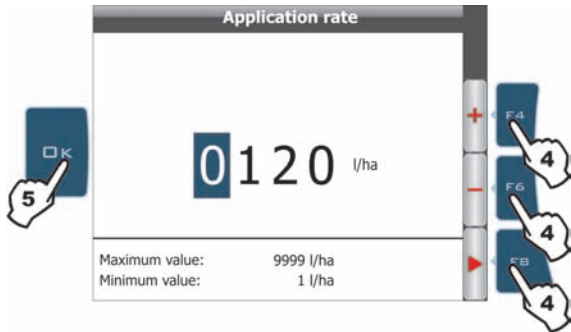
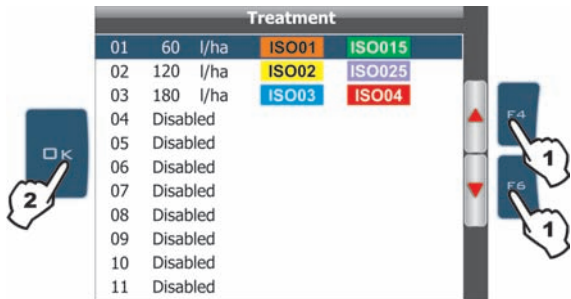

Fig. 228
Fig. 230
- In this screen it is possible to change the treatment values (Fig. 228 - 229), or select a pre-set one (Fig. 230).